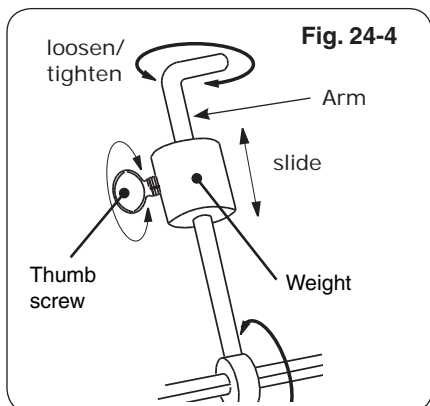
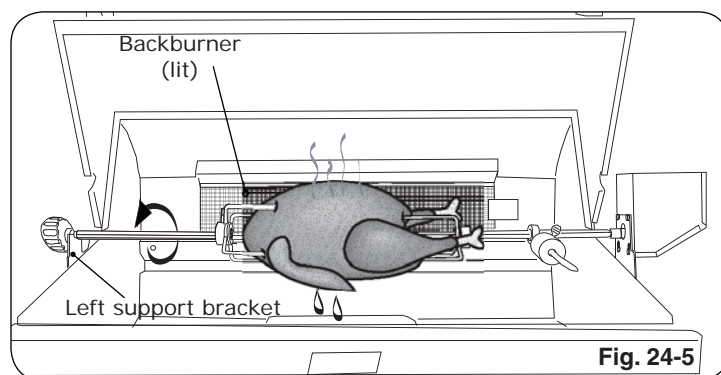

Fig. 24-4
Fig. 24-5
7. Slide the counterbalance weight up or down the arm until the rod rotates most evenly then tighten thumb screw (Fig. 24-4 and Fig. 24-5).